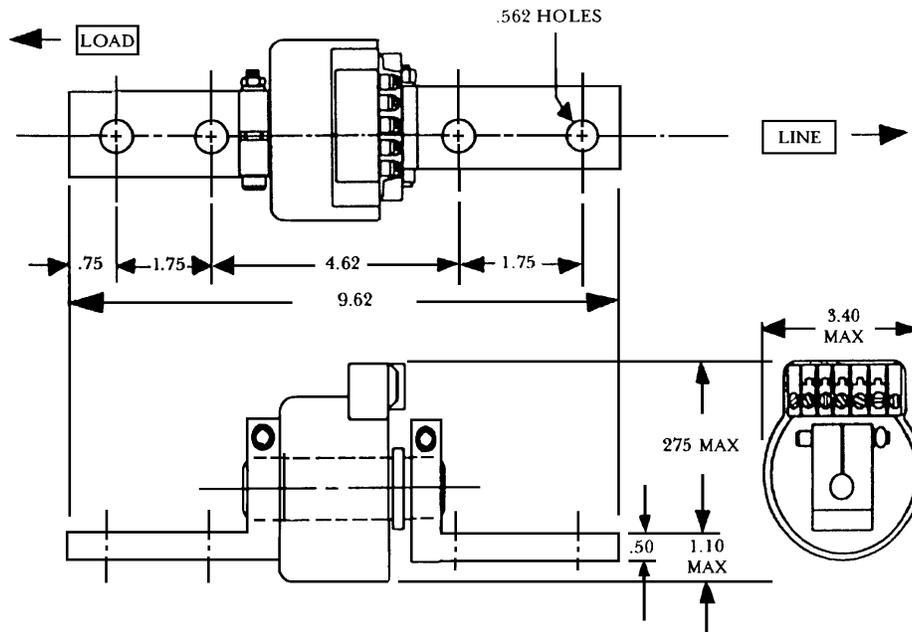

Figure 29. Neutral sensor outline for a DB-25 breaker.
1. Mount the neutral sensor on the outgoing neutral lead, normally in the bus or cable compartment in the equipment. Figures 29 and 30 show the outlines of the neutral sensors for a DB-25 and DB-50 breaker, respectively.